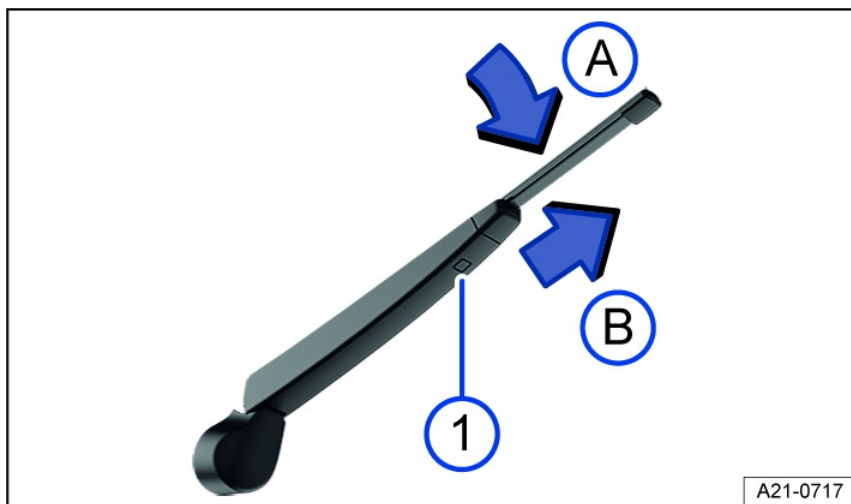

Fig. 184 Changing the rear window wiper blade.
① Wiper blade release button.
3. Press and hold the release button *fig. 184* ①.
4. Tilt the wiper blade toward the wiper arm *fig. 184* ② while removing it in the direction of the arrow ③. You may need to use more force to do this.
5. Slide a new wiper blade with the same length and design onto the wiper arm in the opposite direction to the arrow until it engages *fig. 184* ④. For this to work the wiper blade has to be folded out *fig. 184* ②.